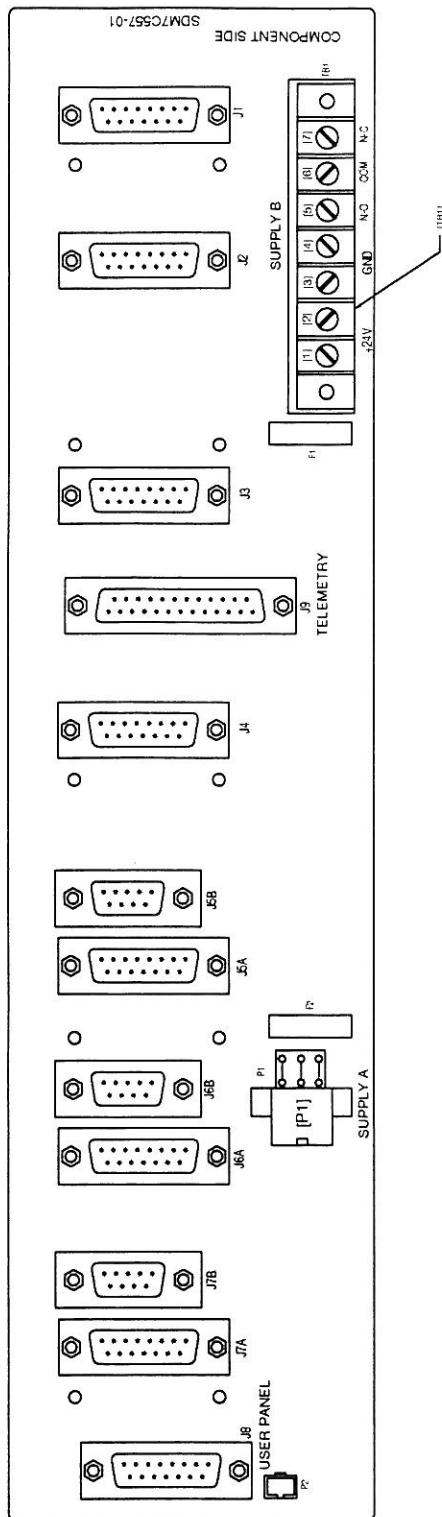

Figure 3-3. Power Distribution Board
- The customer may order the shelf with supply A pre-equipped (mounted) and may also order a redundant power supply (ED8C830-32G2,3) that can be mounted near the shelf. If the power supply is ordered, the customer then wires the power supply output to terminal block TB1 of the power distribution board, as shown in Figure 3-3. For each power supply, a nominal power source of 115 VAC or 230 VAC, 50 to 60 Hz, must interface with the IEC connector on the power supply.
- The customer may order the shelf with supply A pre-equipped (mounted), but **not** order a redundant power supply B. If redundant power is desired, then the customer's choice of power supply should be wired to terminal block TB1, as shown in Figure 3-3. When using the redundant supply B, the ENABLE switch on the user panel should be enabled. If redundant power is not desired, then terminal block TB1 need not be wired to a power supply.
On the power distribution board shown in Figure 3-3, F2 is the fuse for the +24 V from power supply A and F1 is the fuse for the +24 V from power supply B. F1 and F2 can only be replaced with 15 A snap-in auto fuses. The power distribution board contains the following connectors: